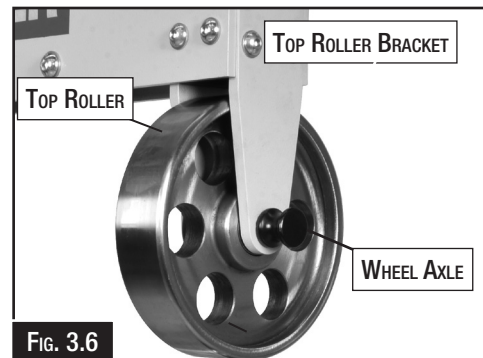

FIG. 3.6
1. Place the large upper wheel in upper wheel bracket, then install the wheel axle. (Fig. 3.6)
2. Install the spring clip in the upper wheel axle to secure upper wheel in the top roller bracket. (Fig. 3.6)